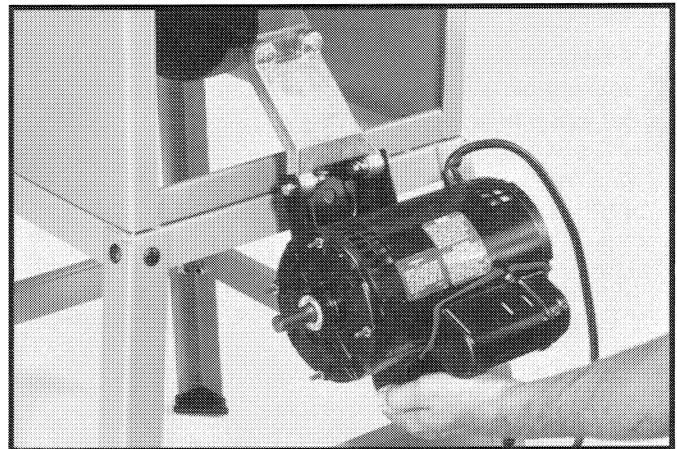

Fig. 14
4. Fig. 14, illustrates motor assembled to back of saw.